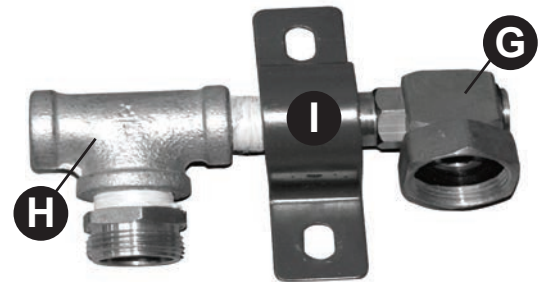

FIGURE 4
4. Insert the Brass Swivel **(G)** through the U-bushing **(I)** and screw the end of the swivel into the galvanized tee **(H)**. **See Figure 4**. Using a wrench, tighten the swivel into the galvanized tee. Tighten securely but do not over tighten. Over tightening the swivel could cause leakage.